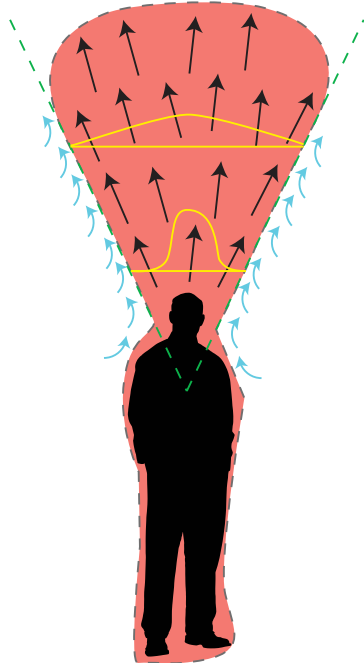

Fig. 3 - Thermal Plume
This can be directly related to Displacement Ventilation. As cool, dense supply air discharges from the diffuser, it is physically heavier than the warmer room air, causing it to sink to the floor. From there, the air travels along the floor as it is drawn towards convective heat sources such as people, computer equipment and lights. Each heat source generates a convective plume, driven by buoyancy forces, creating an upward velocity of warm air around the source (**Fig. 3**). This velocity creates a low pressure region along the surface of the source creating a constant flow of cool, ventilated supply air entrainment into the plume, effectively cooling the heat source and providing fresh air to the breathing zone.
1. Zone Air Distribution Effectiveness (EZ) of 1.2 requires 20% less ventilation airflow.
2. Improved airborne contaminant removal efficiency, improving IAQ (see **Fig. 3**).